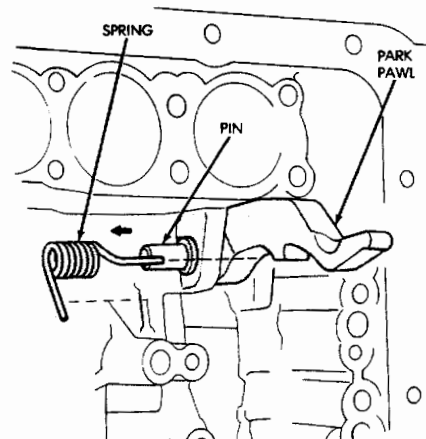

Fig. 38 Removing/Installing Park Pawl-Pin-Spring
- (5) Remove park pawl, pin and spring (Fig. 38).
- (6) Examine park rod, pawl, pin and spring. Replace any component that is worn or damaged.
- (7) Install pawl in case. Insert pin and install spring. Be sure spring is positioned as shown in Figure 38.